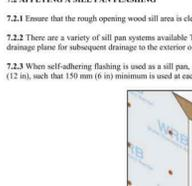

FIGURE 11
7.2.3 When self-adhering flashing is used as a sill pan, cut to a length equal to the rough opening width plus at least 300 mm (12 in), such that 150 mm (6 in) minimum is used at each jamb to form end dams (See Figure 11).
- For a flat or non-recessed sill condition, lower surface of the concrete sill to the depth of the inside face of the wall, and the exterior face covering at least 100 mm (4 in) down from the exterior edge (see Figure 11).